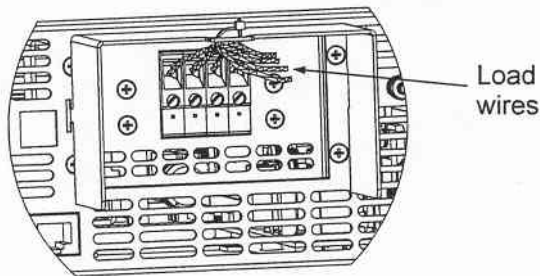

Fig.3-10: Protective shield and wires assembly
6. Tighten the wires to one of the shield sides using typ-wrap or equivalent. Refer to Fig.3-10. Ensure that the wire length inside the shield is long enough to provide proper strain relief.